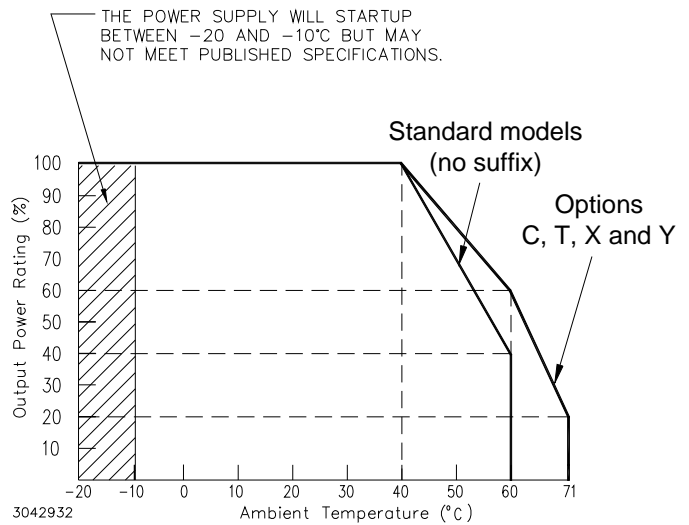

FIGURE 4. % OUTPUT POWER RATING VS. AMBIENT TEMPERATURE
(1) Derates same as Output Power.
(2) Current Limit is rectangular. After the overload is removed, output is automatically restored.
(3) See power derating curve, Figure 4.
OPERATING TEMPERATURE: See Figure 4.
(5) Ripple and noise will be approximately 1.5 times higher when operating temperature range is between -10°C to 0°C.
(6) Sense resistor on C and Y Models used for current monitoring. See "Current Monitor." on page 2 for details.
(7) Natural convection cooled; see Figure 4.